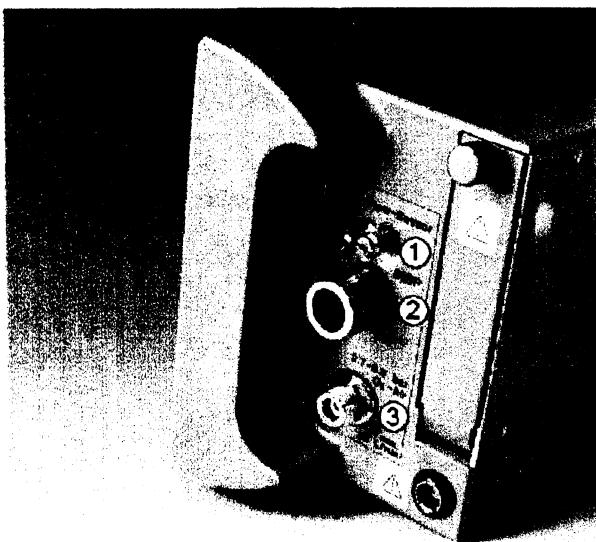

Fig. 7 Sockets
3. Remove the sockets for the external flow sensor Fig. 7/1, ventilation tube Fig. 7/2 and compressed oxygen supply Fig. 7/3.